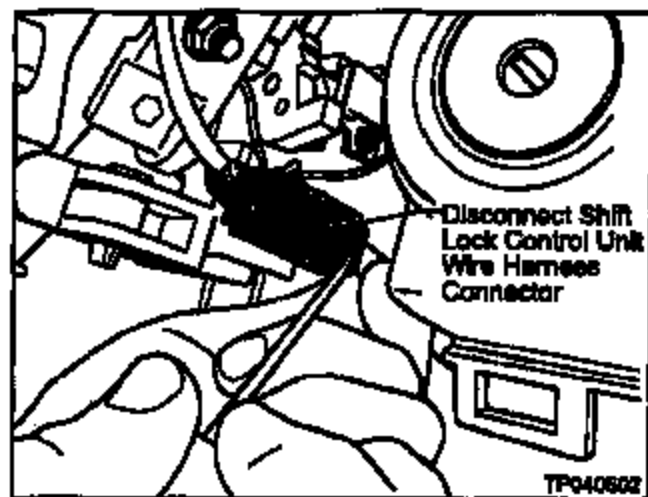

Figure 7
11. Disconnect the Shift Lock Control Unit Wire Harness Connector (see Figure 7).
- Use a small pick or screw driver to press on the connector lock tab. This will release the connector (see Figure 7).